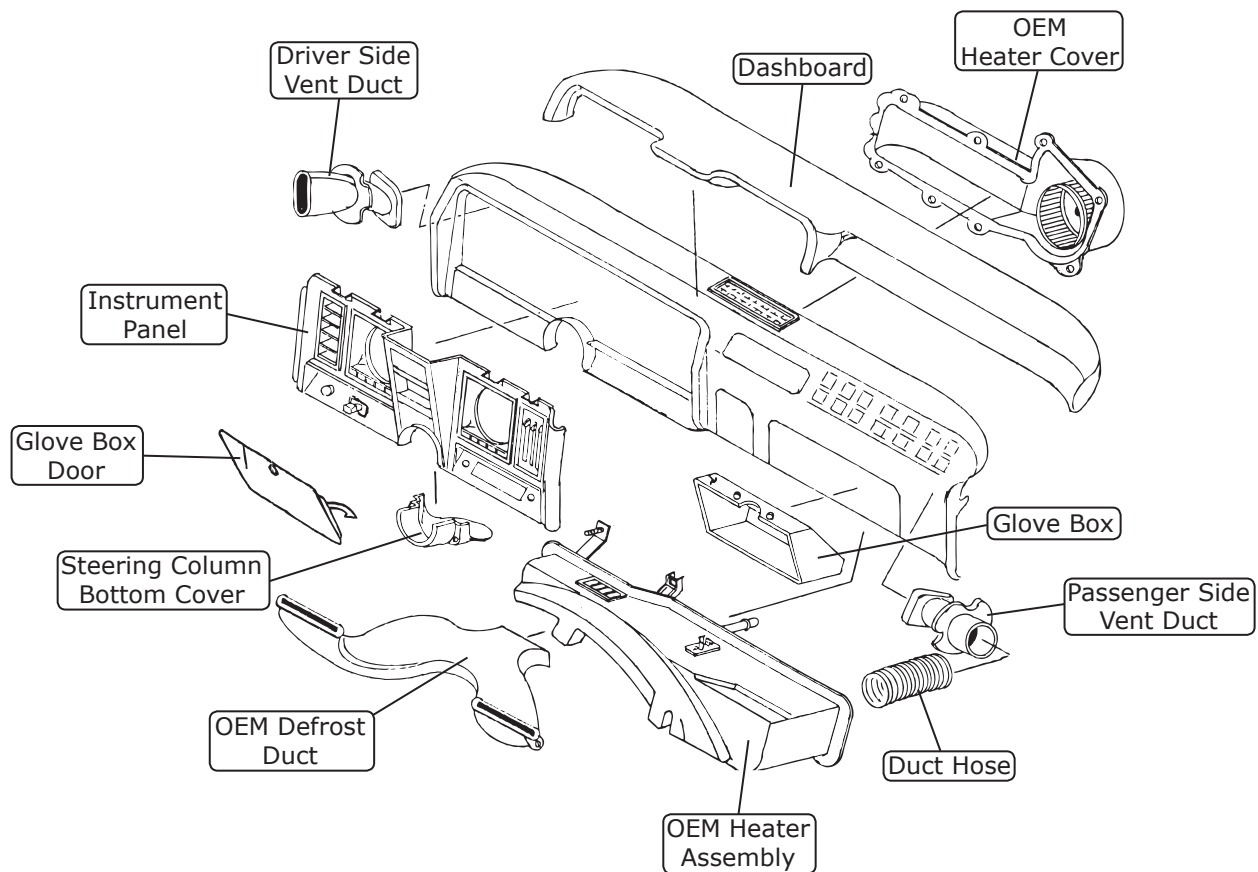

Figure 1
4. Remove OEM heater cover (discard) (See Figure 1, Page 7). **NOTE:** The inner fender must be loosened and lowered. Remove (4) bolts from fender at the windshield and door area, and raise the fender to remove the blower motor.
1. Remove the OEM heater assembly (discard) (See Figure 1, below).
2. Remove the OEM defrost duct (discard) (See Figure 1, below).
3. Remove the dashboard (retain) (See Figure 1, below).
4. Remove the steering column bottom cover (retain) (See Figure 1, below).
5. Remove the driver and passenger side vent ducts (discard) (See Figure 1, below).
6. Remove the OEM duct hoses (discard) (See Figure 1, below).
7. Remove the glove box door (retain) (See Figure 1, below).
8. Remove the glove box (discard) (See Figure 1, below).
9. Remove the instrument panel (retain) (See Figure 1, below).